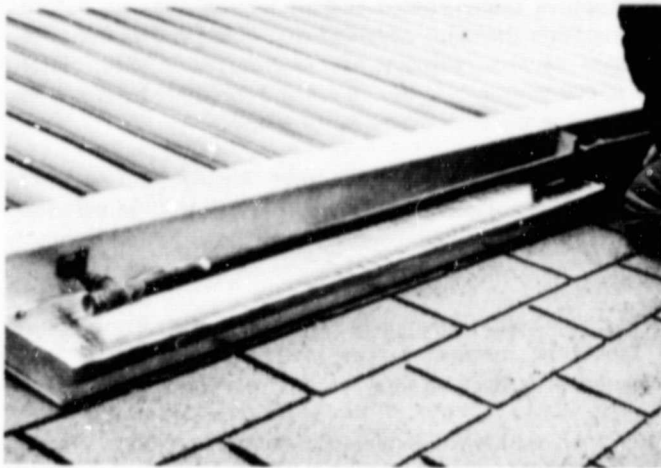

Figure 5-5. Install Bottom Channels
1. Remove the six sheet metal screws from the collector transition section for all collectors and without removing the covers, install the bottom channels using the same holes and screws, (Figure 5-5). The insulation is attached to this section.